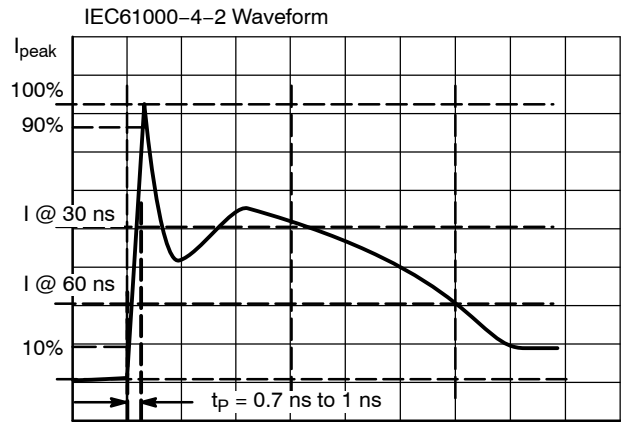

Figure 3. IEC61000-4-2 Spec
2. For test procedure see Figures 3 and 4 and application note AND8307/D.